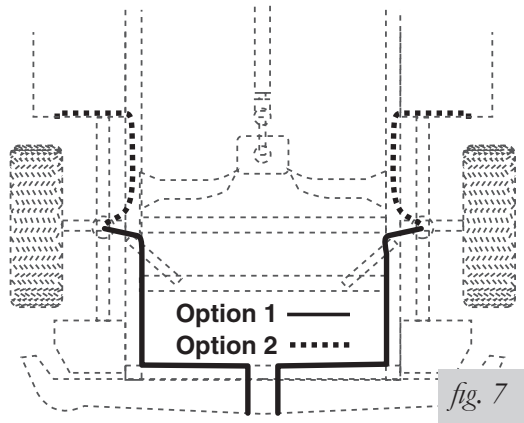

fig. 7
- Select a location for the inflation valve in the gas cap well, the trunk, rear bumper, fender flange or behind license plate, insuring that the valve will be protected and accessible with an air hose (fig. 7).